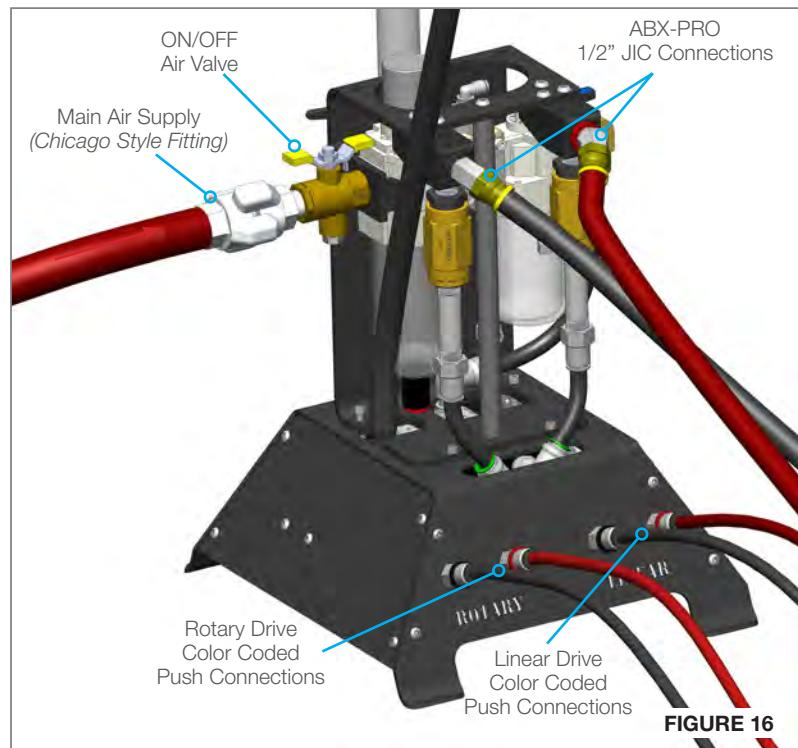

FIGURE 16
- Connect the customer supplied, Main Air Supply line (Chicago Style Fitting) to the Control Box. (Figure 16)
- Connect the color coded 3/8" Tubing to their respective push connect fittings, located above the "ROTARY" and "LINEAR" labels on the base of the Control Box. (Figure 16)
- Turn the Air Valve **ON** and operate the "Linear" and "Rotary" levers on the control box to blow out the 3/8" Tubing lines. (Figures 16 & 17)